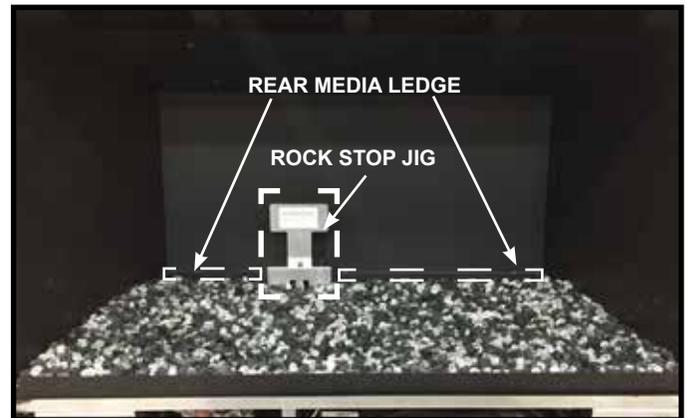

Figure 9.4 Glass Media Installed
**CAUTION:** Do not install media behind rear media ledge. This may cause sooting. See Figure 9.4.